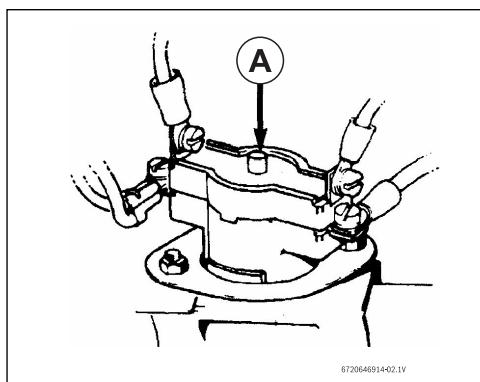

Fig. 2
- The cut-out will trip only in exceptional circumstances (Fig. 2). Call your service person or Bosch Thermotechnology Corp. if this happens frequently.